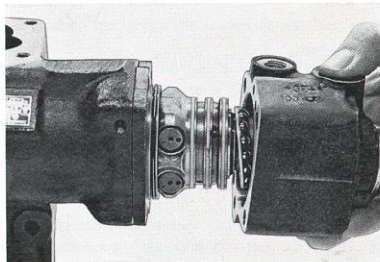

Fig. 6-77. Removing valve housing
4. Remove the rubber cover (51) and the attaching bolts (50 and 52). Pull off the valve housing (56), see Fig. 6-77. Remove the lock ring (53) and press out the sealing ring (54).